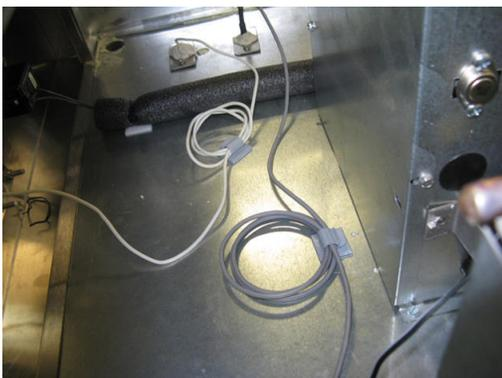

Figure 4: Securing excess wire
5. Secure the excess wire using a cable clamp as shown in Figure 4.